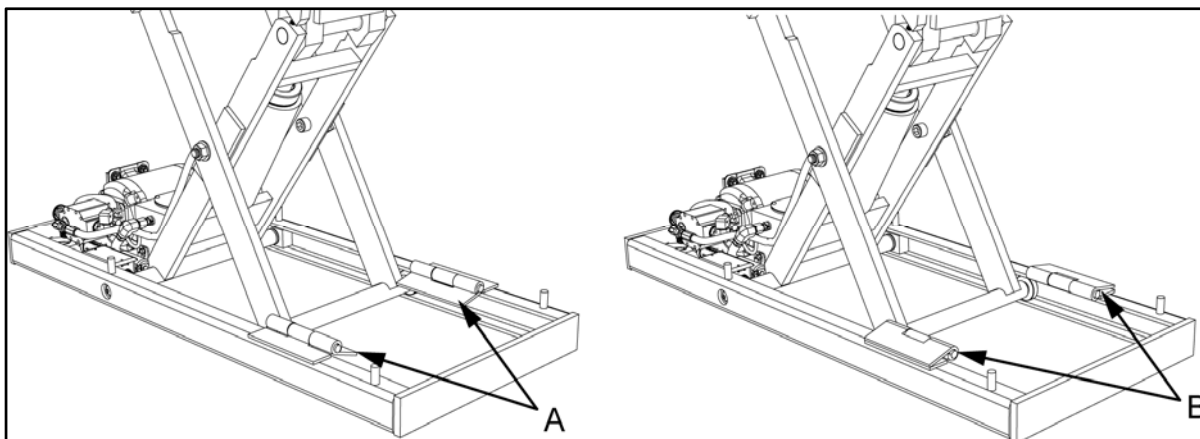

Figure 6.1
3. The lift will is provided with two flip-in maintenance devices welded to the outside of the base frame. The devices must be flipped over and resting inside the base frame (as shown at A) and thus in the roller path of the lift (**See Figure 6.1**). Maintenance devices are disengaged at (B).